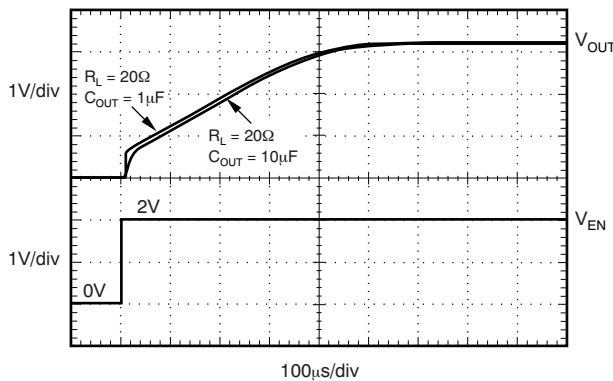

Figure 23. TPS7A3701: TURN-ON RESPONSE
The enable pin (EN) is active high and is compatible with standard TTL-CMOS levels. A  $V_{EN}$  below 0.5 V (max) turns the regulator off and drops the GND pin current to approximately 10 nA. When EN is used to shutdown the regulator, all charge is removed from the pass transistor gate, and the output ramps back up to a regulated  $V_{OUT}$  (see Figure 23).